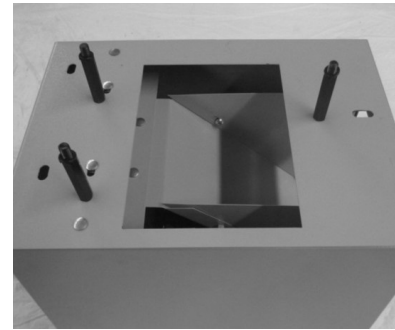

Figure 1
2. Line up two holes in top of stand with holes in jointer body assembly(Figure 1)